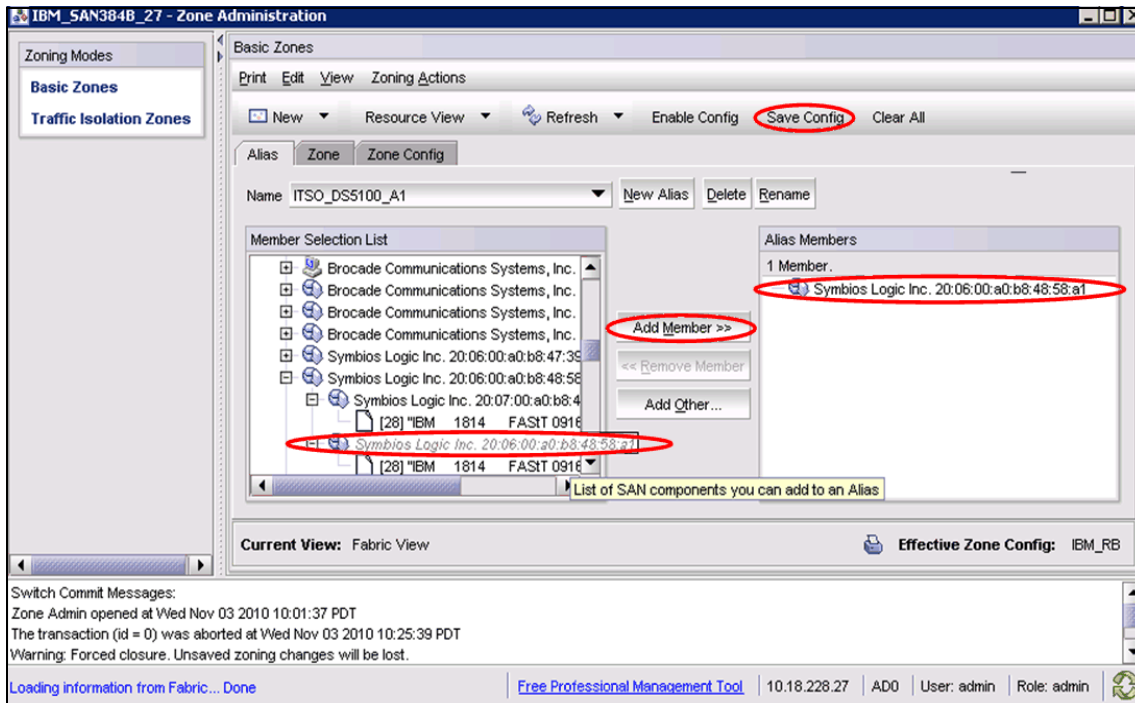

Figure 12-34 Save without enabling
- Click the elements in the Member Selection List that you want to include in the alias. The **Add Member** button becomes active (Figure 12-34).
- Click **Add Member** to add an alias member. The selected member is added to the Alias (Figure 12-34).
- Optionally, click **Add Other** to include a WWN or port that is not currently a part of the fabric. At this point, you can either save your changes, or you can save and enable your changes (Figure 12-34).
- Click **Save Config** to save the configuration changes. Click **OK** in the window that opens. Remember that this is not applying to the fabric (Figure 12-34).